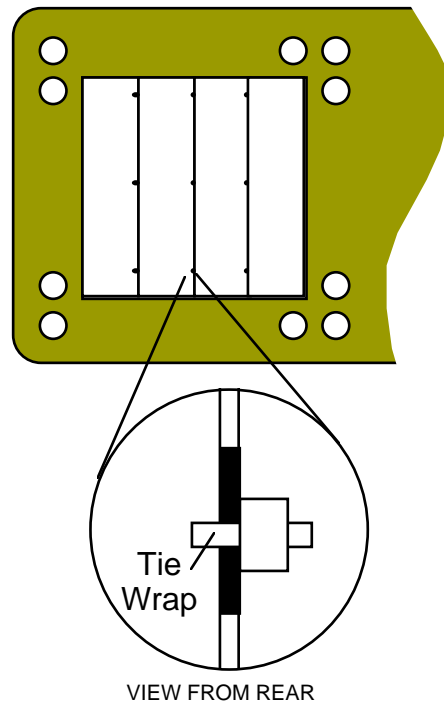

Figure 10 - EMI Screen Stand-Off Detail
- Unbolt Stand-offs to front screen. See Figure 10.